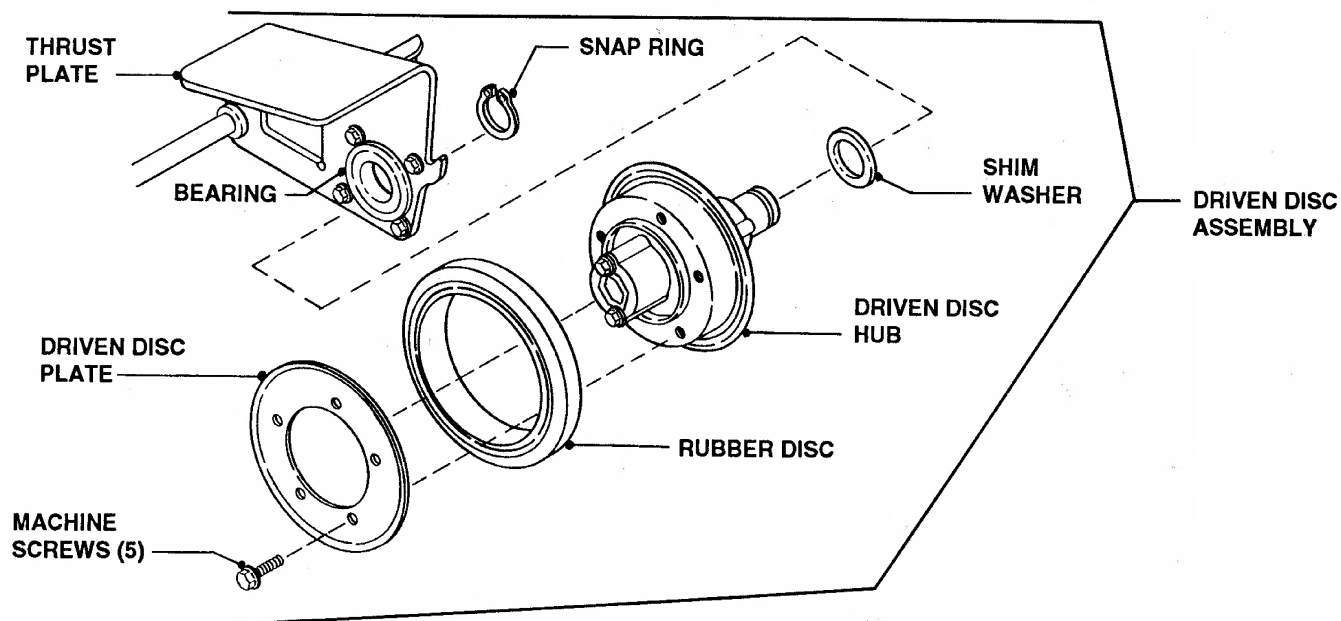

FIGURE 4
STEP 3: Remove the five machine screws from the driven disc plate. Separate the plate and rubber disc from the driven disc hub. See Figure 4.
STEP 4: Remove snap ring from driven disc hub and thrust plate and slide hub out as shown in Figure 4.